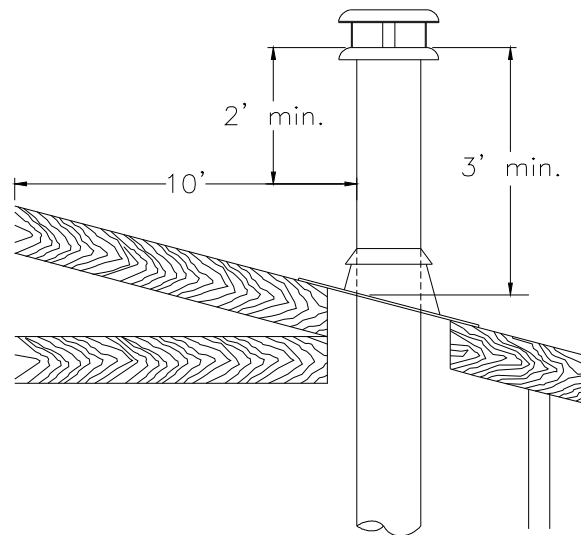

Figure 21
6. The chimney must extend at least 3 ft. (915 mm) above its point of contact with the roof and at least 2 ft. (610 mm) higher than any wall, roof or building within 10 ft. (3m) of it (Figure 21).